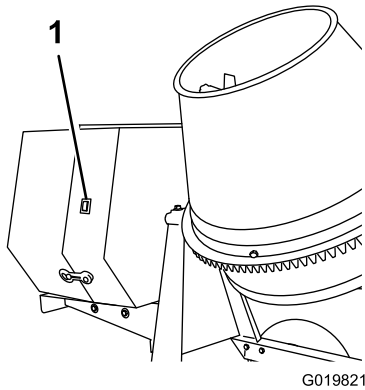

Figure 36
1. On the engine cowl, move the engine switch to the On position (Figure 36).
2. Turn the cowl-mounted engine switch off (Figure 36).
Important: If you need to stop the engine immediately, use the engine switch located on the outside of the engine cowl (Figure 36).